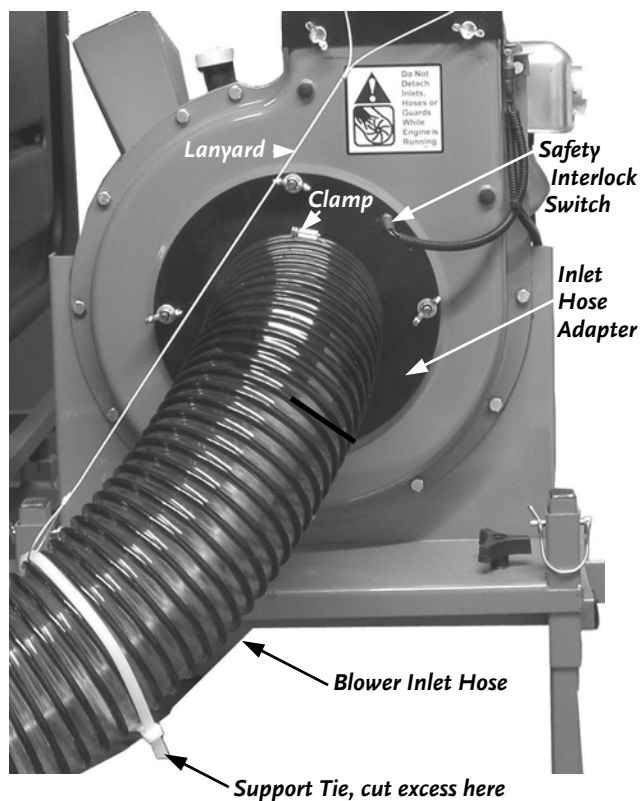

Figure 44
1. Cut the Support Tie around the Blower Inlet Hose (**Figure 44**).
2. Loosen the Clamp retaining the Inlet Hose at the Inlet Hose Adapter and the Connector Fitting at the opposite end of the Hose. Then slip the Hose off the Adapter and Fitting (**Figure 44**).
5. Install a new Support Tie, through the Lanyard and around the Inlet Hose about half way along the Hose. Cut off excess Support Tie (**Figure 44**).